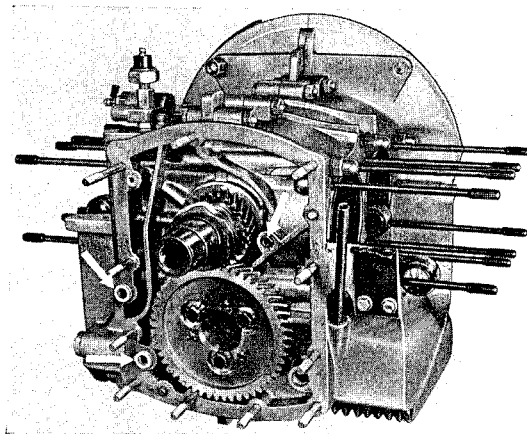

Fig. 210
1. Install new oil seals at the three oil line connections from the timing case cover to the crankcase. Two at the left of the camshaft gear and one to the right of the crankshaft pinion (Fig. 210). Care must be taken that these rubber rings do not become dislodged when installing the timing case cover.